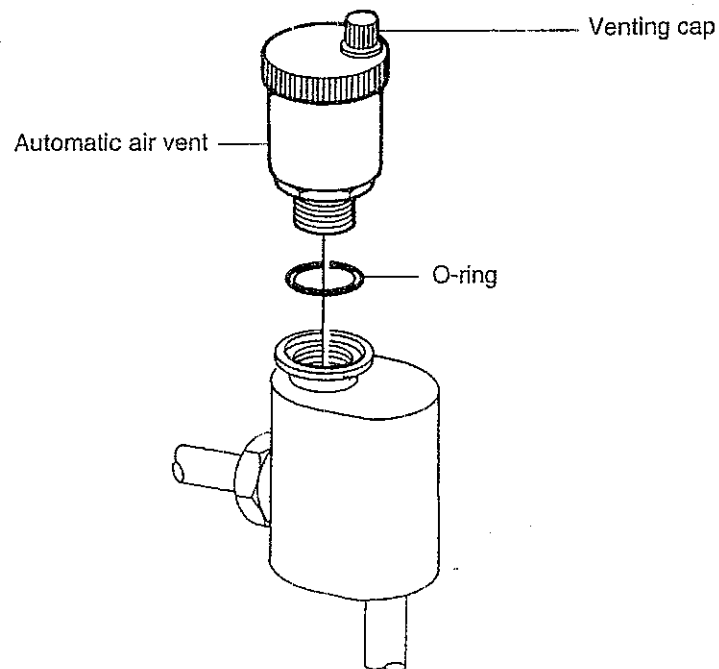

Fig 41
- d) Re-assemble in reverse order ensuring the «O» ring is fitted (fig. 41) and that the venting cap is loose.